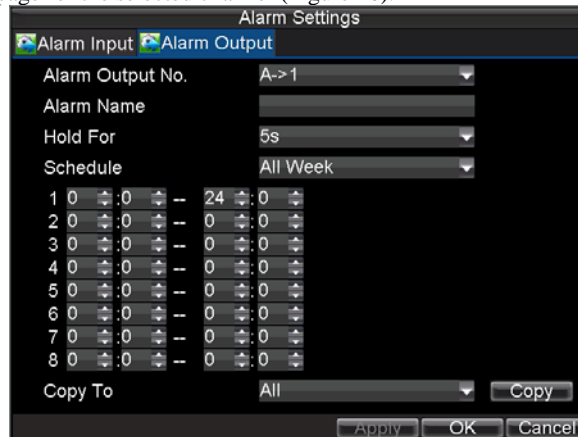

Figure10. Alarm Output Settings
2. Select the output you would like to configure and click the *Set* button. This will bring up the settings page for the selected channel (Figure 10).